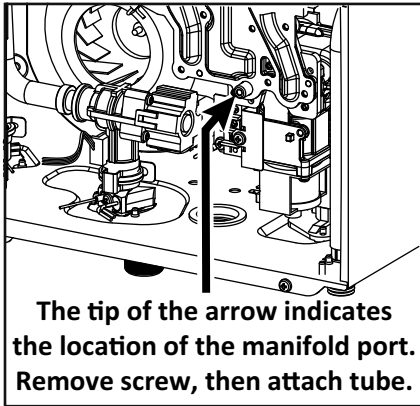

Figure 14.
3. Remove the screw from the manifold port (Figure 14, p. 26).
2. Remove the screw from the manifold port (Figure 14).
2. Remove the screw from the manifold port of the water heater (Figure 14).